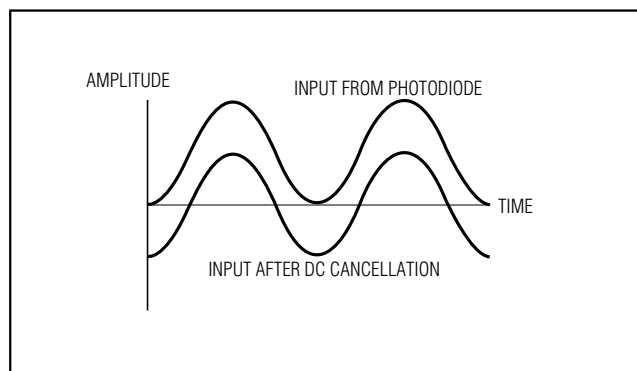

Figure 3. DC Cancellation Effect on Input
The direct current (DC) cancellation circuit uses low-frequency feedback to remove the DC component of the input signal. This feature centers the input signal within the transimpedance amplifier's linear range, thereby reducing pulse-width distortion caused by large input signals (Figure 3).